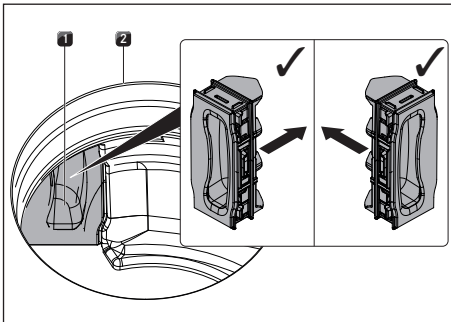

Fig. 8.11 Inserting the filter replacement cover
- ▶ Inside the inlet opening pull the filter replacement cover out of the filter housing opening (to remove the filter replacement cover see Fig. 8.11).
- ▶ Inside the inlet opening push the filter replacement cover until it comes to a stop in the filter housing opening (to insert the filter replacement cover see Fig. 8.11).